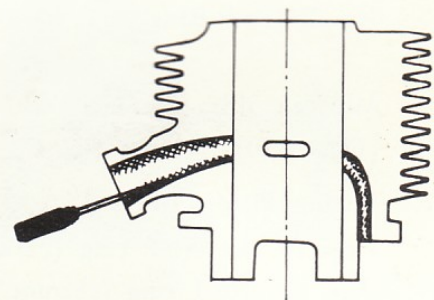

Fig. 3-18
- Removing Carbon Carbon tends to accumulate on the inner wall of the exhaust port, so you should remove it with a screwdriver or other appropriate scraping tool. (Fig. 3-18)